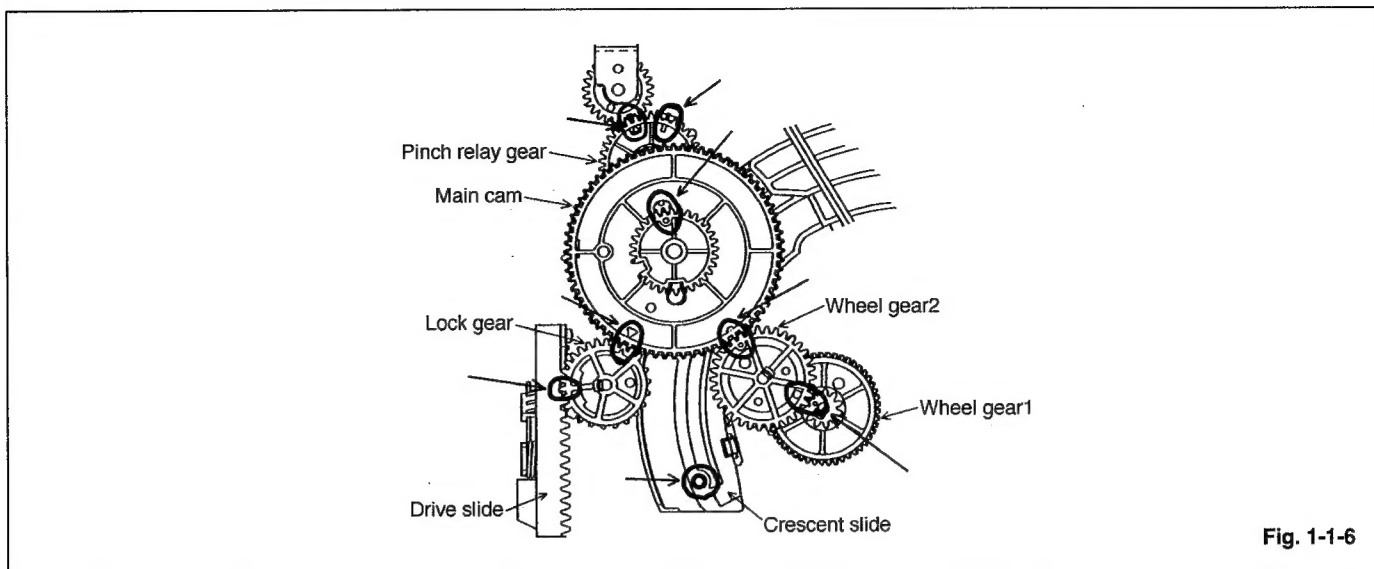

Fig. 1-1-6
**Note:** Before assembling the mechanism unit and the CP-1 board, check the eject mode positioning marks as shown in Fig. 1-1-6 and Fig. 1-1-7.